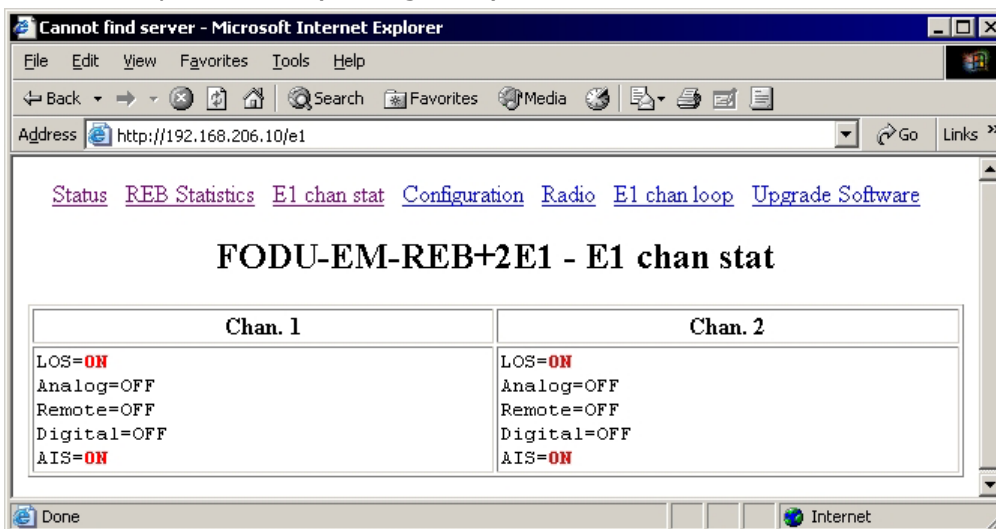

Figure 6
- Monitor E1 port status (see Figure 6)